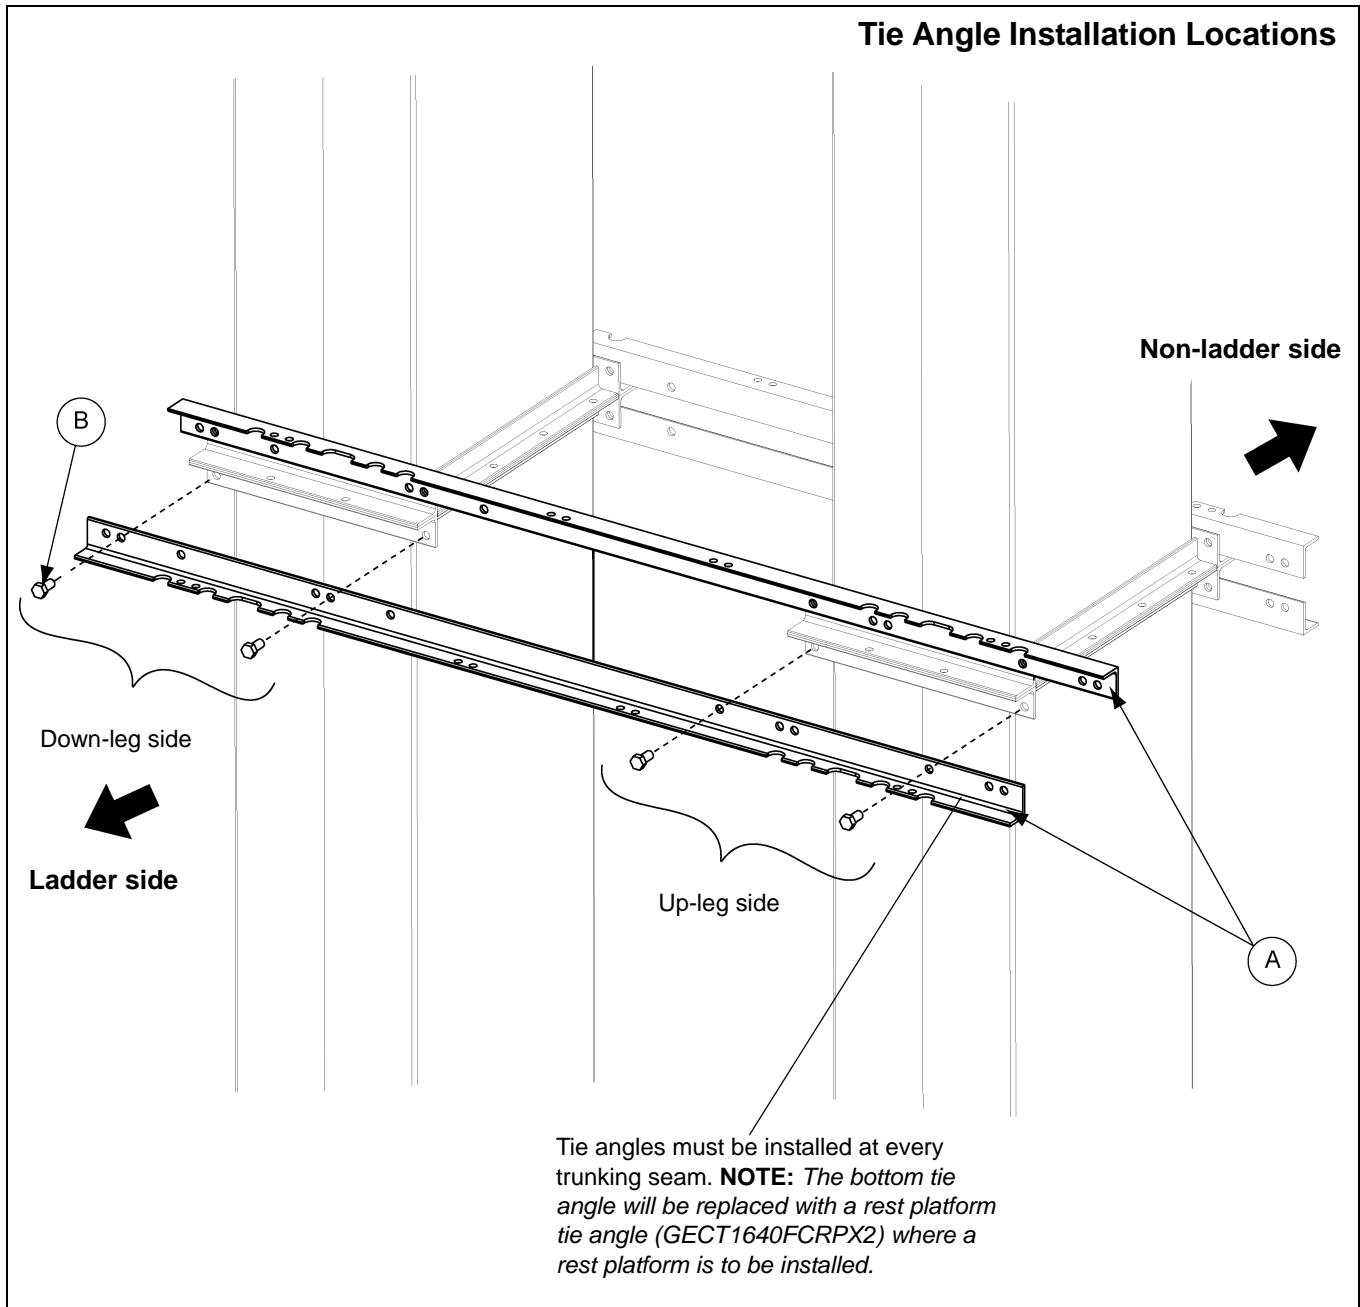

Figure 6G Tie Angle Installation Location
1. Tie angles must be mounted to each trunking seam on both the ladder and non-ladder side of the trunking. Use 1/2" x 1" bolts (S-7935) (B). *See Figures 6G-6I on Pages 28 and 29* for the correct location of bolts for each elevator size.